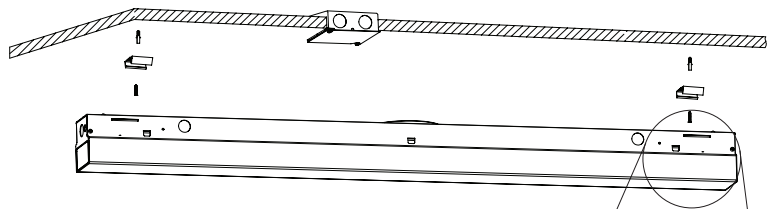

Fig. 2
2. Screw the covers at the outlet to the back of the housing. (Fig. 2)